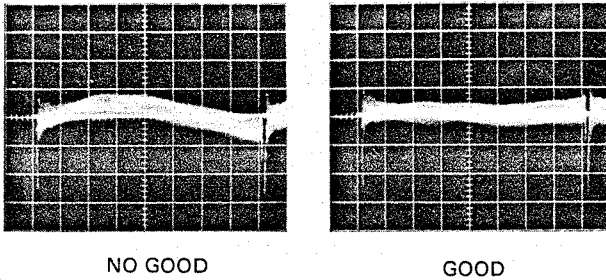

Fig. 6-4-29
(2) R signal vertical shading adjustment
- Adjust R-V.SAW VR210 and R-V.PARA VR211 to make the waveform as flat as possible. (Fig.6-4-29)